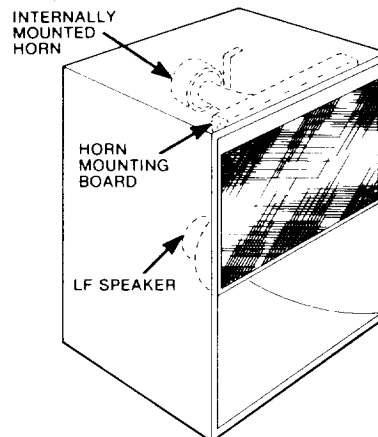

Figure 10. Internally Mounted HF Horn System
19. If desired, install front grille by aligning press-on fasteners. Press each corner of grille firmly, until fasteners lock into position. This completes internal installation of HF Horn. Figure 10 illustrates complete installation.